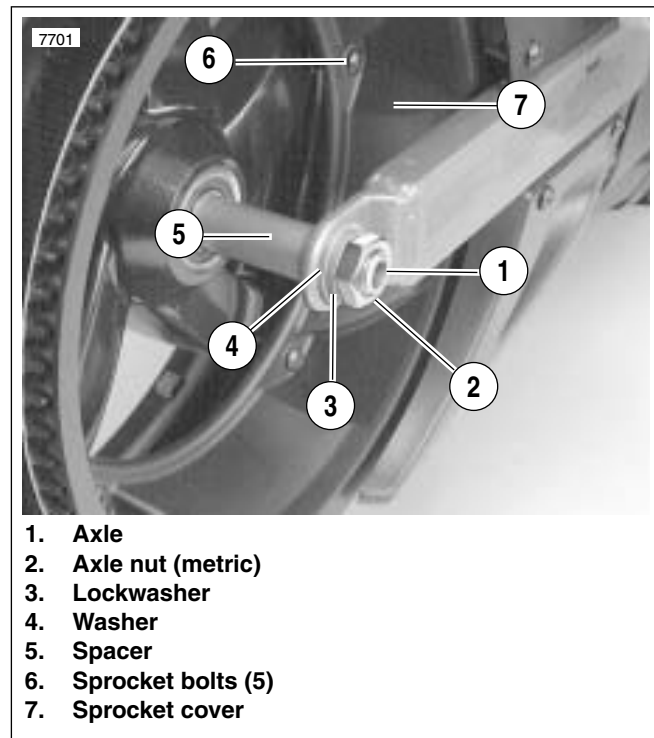

Figure 1-21. Rear Axle, Right Side
23. See Figure 1-21. Slide axle through washer, swing arm, carrier, left side spacer and wheel assembly.